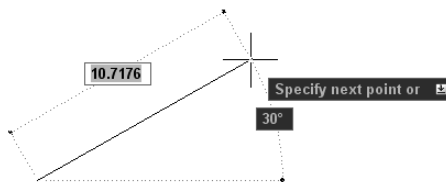

**Figure 1-5:** After specifying the first point of a line, the Dynamic Input bar prompts you for the next point.
4. Anywhere on the screen, stop moving the mouse and click the left mouse button to pick a point. When you move the mouse again, the Dynamic Input bar changes to prompt you to specify the next point, and to show you the angle and length of the cursor from the original point you picked, as shown in Figure 1-5.